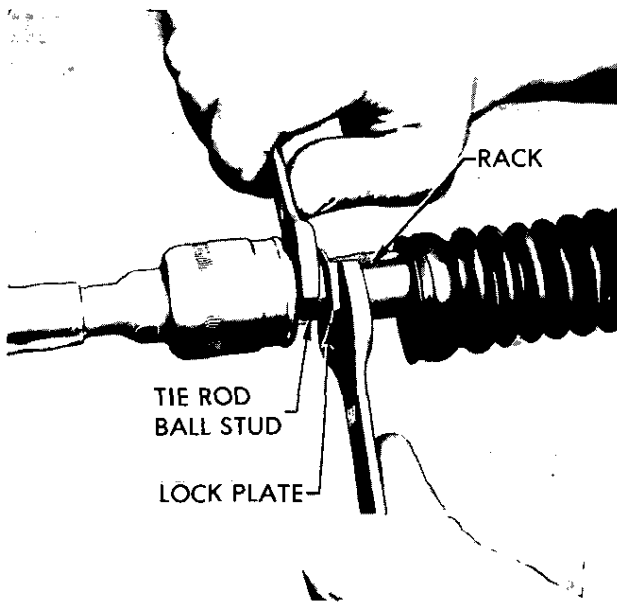

Figure 3D-9 Removing Tie Rods
3. Loosen adjusting screw lock nut; remove adjusting screw from steering gear housing, and take out thrust spring and sintered bronze shell. See Figure 3D-11.